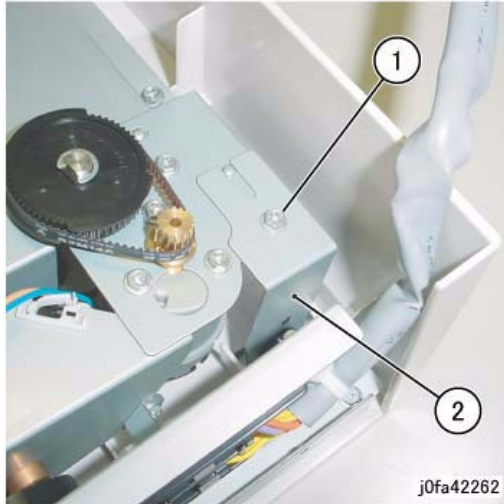

Figure 2 Removing the Bracket
8. Remove the Bracket (Figure 2):